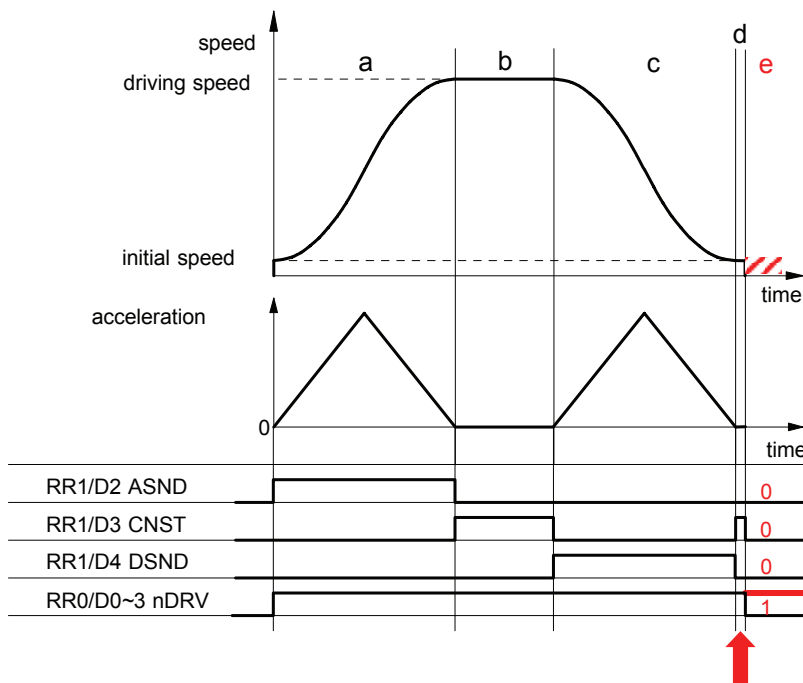

Figure 3. Status of deceleration shown by RR1 register
Deceleration status of accelerating(ASND), constant speed driving(CNST) and decelerating(DSND) can be read out according to RR1 register of IC. The status is shown as Figure 3. as below ;
The timing when the trouble may possibly happen is shown as “d” on Figure 3. At this time, status of deceleration is constant speed driving(CNST=1). Besides in case the trouble such as outputting pulse continuously happens, all of ASND, CNST and DSND will become 0 even though it’s driving(RR0/nDRV=1).
Basically once deceleration starts, it isn’t necessary to execute deceleration stop command. Therefore deceleration stop command should be prohibit. See nRR1/D4(DSND) normally to know it’s decelerating or not. Timing when the trouble happens is in “d” as shown on Figure 3 if deceleration stop command is executed. In “d” DSND status bit is 0 and CNST status bit is 1. Therefore the following two(2) solutions will be proposed.
(1) When interruption from IC can be used
Terms when deceleration stop command should be executed in accelerating and constant speed driving such as "a" and "b" on Figure 3. Status of deceleration for both "d" (timing when the trouble happens) and "b" (constant speed driving) is same as constant speed driving as shown on Figure 3. But there is difference of driving speed between two. Driving speed in "b" is near that of setting driving speed. Driving speed in "d" is near that of initial speed. Therefore before driving starts, prepare judgmental speed which is middle one between initial speed and setting speed ( $(\text{Driving speed} - \text{initial speed})/2 + \text{initial speed}$ ). When execute deceleration stop command during driving, make sure status is accelerating(ASND=1) or constant speed driving(CNST=1) and driving speed is same or faster than judgmental speed.
Constant speed area ("b" area) on Figure 3 is set as occurrence factor of interruption. But this interruption is also happened when there is "d" area just before driving stops on Figure 3 such as when driving speed reaches initial speed or when acceleration becomes 0(zero). There should occur "d" area definitely if the trouble is happened just before driving stops, driving speed hasn't reached initial speed yet, acceleration becomes 0 and decelerating stop requirement is executed. The measure is to judge if the trouble happens or not in the timing of interruption when "d" area ends.
- ① Check if driving goes out constant speed area or not. If RR3/D5(C-END) bit of driving axis is 0, there are other interruption factors. Execute those interruption processing.
- ② Check if driving goes into decelerating area or not. If it's RR1/D4(DSND)=1, make it finished as it goes because driving goes into "c" area from "b" area on Figure 3. If it's RR1/D4(DSND)=0, move it to ③ processing because driving has gone out "d" area.
- ③ Check if driving has finished or not. If it's finished, make it finished as it goes because driving has finished normally. But if it's not finished yet, surely trouble have happened because status is shown as it's still driving even though driving has gone out "d" area.
- ④ Check if hard limit is ON or OFF. Since RR1/D12 bit becomes 1 if + limit is ON and RR1/D13 bit becomes 1 if - limit is ON, if it's D12=1 or D13=1, judge forward limit is ON.
- ⑤ If trouble has happened, it becomes ASND=CNST=DSND=0. Check them all.
- ⑥ Execute sudden stop command(27h).
(2) When interruption can't be used
In “d” area on Figure 3, if forward limit is active, the trouble will happen, more exactly saying, it will seldom happen. There isn't any method to avoid it before it happens. So immediately after the trouble happens, take means to stop driving. If the trouble happens (“e” area on Figure 3), status keeps driving(RR0/nDRV=1), status of acceleration/deceleration is 0 in ASND, CNST, DSND. This is completely abnormal state. So the example of measure is shown as follows;